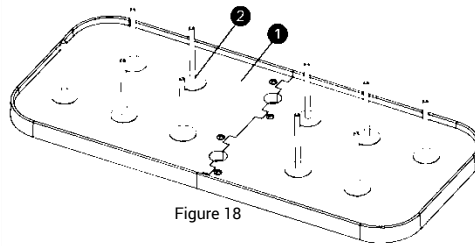

Figure 18
14. Connect all ten (10) thread pins to the thread rack stand. See Figure 18.